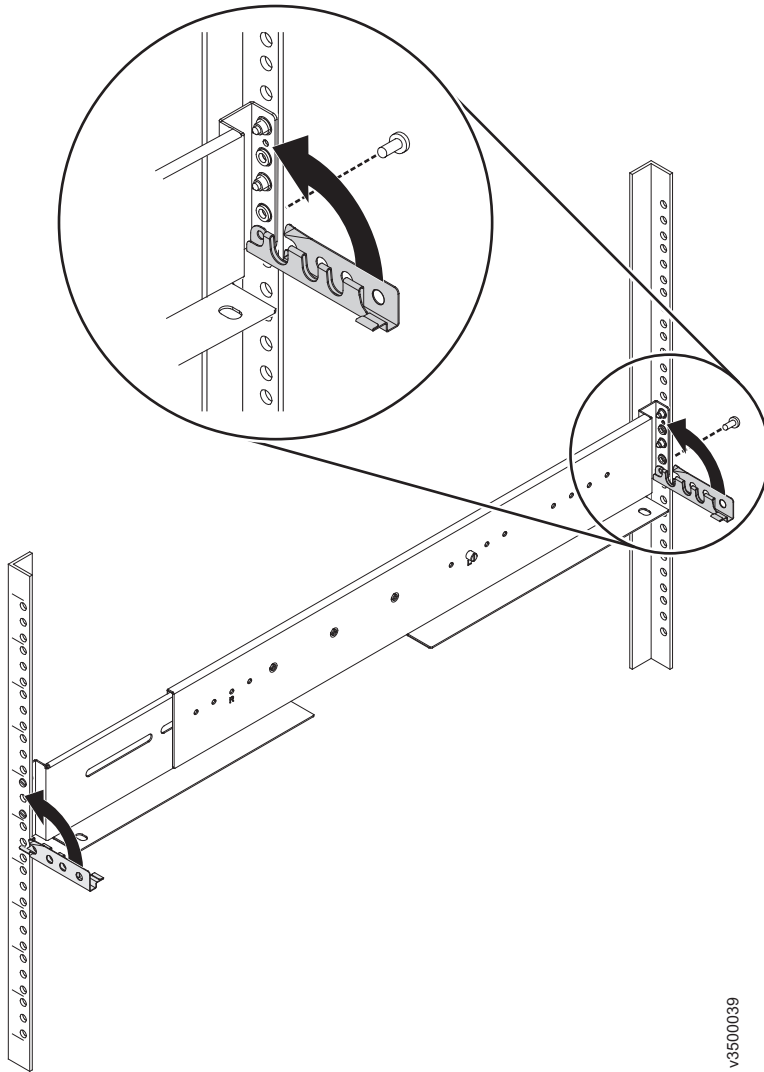

Figure 12. Closing hinge brackets and installing rear screw
9. Close the rear hinge bracket to secure the rail to the rack cabinet flange. (See Figure 12.)
11. Close the front hinge bracket to secure the rail to the rack cabinet flange. (See Figure 12.)
12. Secure the rear of the rail to the rear rack flange with an M5 screw. (See Figure 12.)